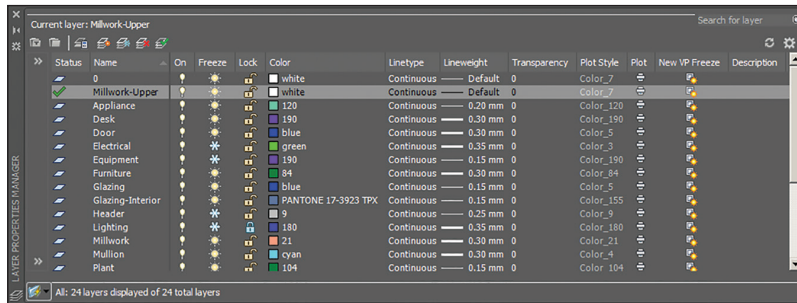

FIGURE 6.27 Maximizing the columns in the Layer Properties Manager makes them easier to read.
5. Right-click any one of the column headers to access a context menu. Choose **Maximize All Columns** from this menu. Figure 6.27 shows the result: The columns are all readable.